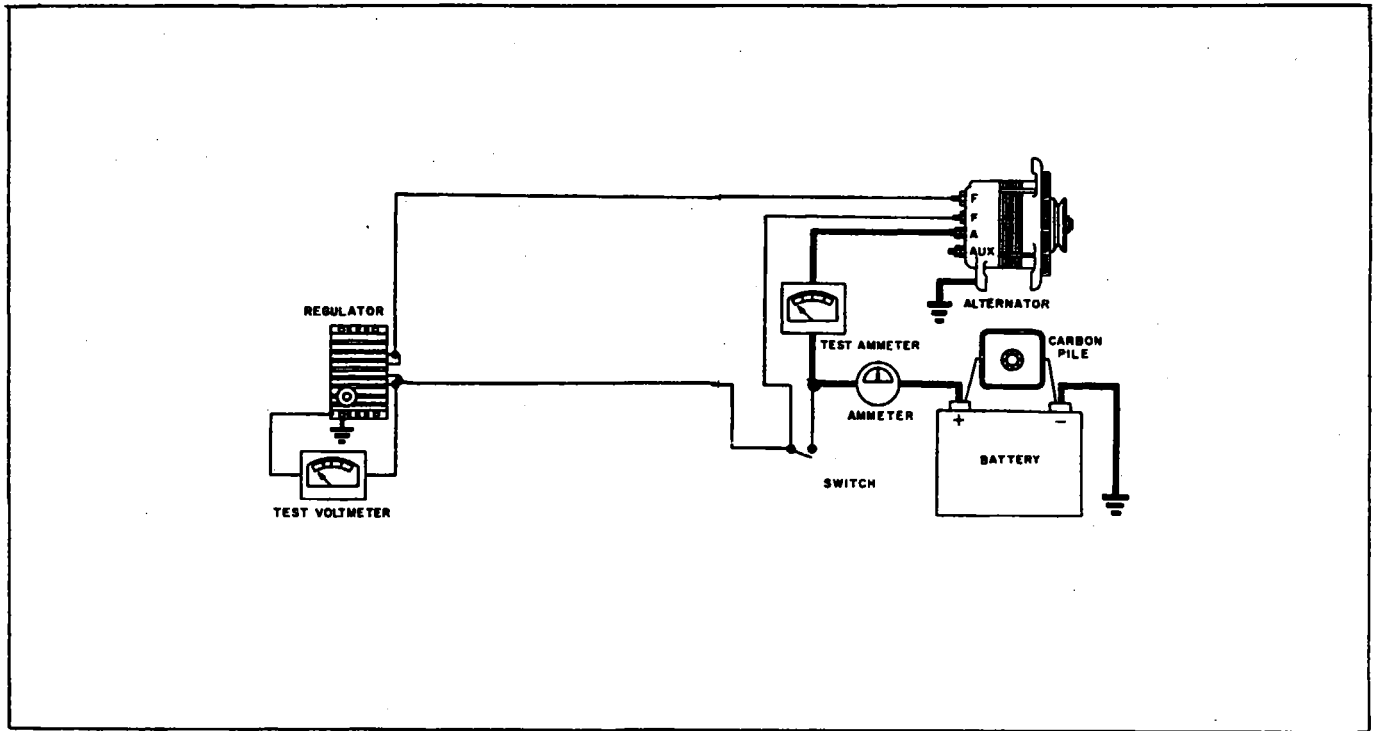

Figure 11-52. Testing Regulator (Prestolite)
- a. The procedure for testing the regulator, whether on the airplane or on the test bench, remains the same. Connect test meters as shown in Figure 11-52.
- d. Connect the voltmeter and the ammeter as shown in Figure 11-52. Start the engine and adjust its speed to obtain 900 to 1200 RPM or 3,000 to 4,000 alternator RPM on a test bench setup. Turn on the accessories as needed to establish 10 to 15 amperes electrical load, or use a carbon-pile across the battery to obtain this charge rate.